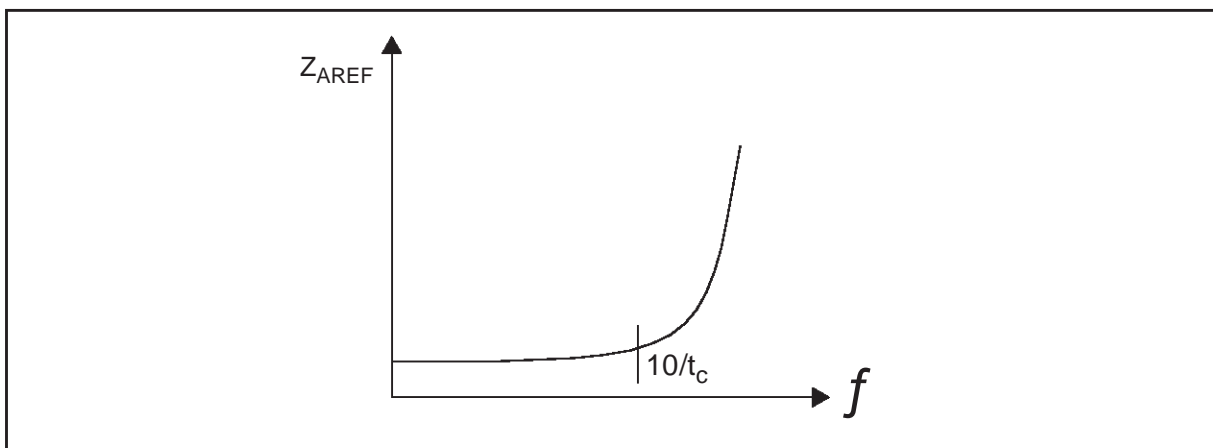

Figure 4 Analog reference source - impedance characteristics
- Make sure that the Voltage Reference source presents a low impedance from dc to well above the max. sampling frequency ($1/t_c$): see Figure 4.